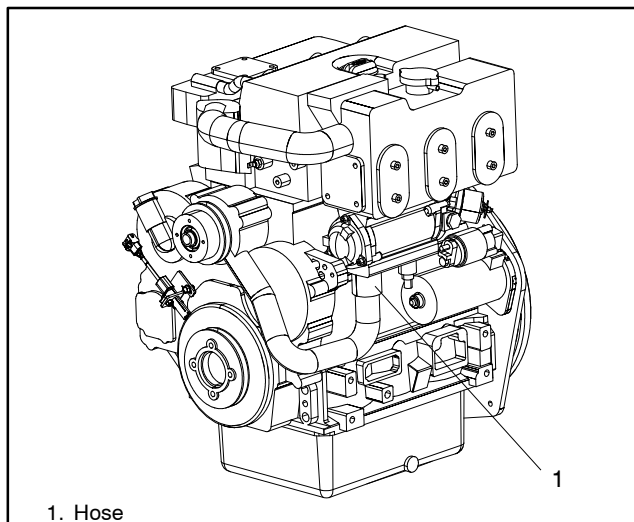

Figure 6-3 Hose Location, Typical
4. Disconnect the hose from the heat exchanger at the location shown in Figure 6-3. Drain the coolant.